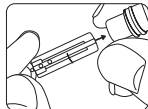

Figure 24
STEP 2: Insert a sterile lancet into the lancet holder and push down firmly until lancet is fully seated. Do not twist the lancet. See Figure 24.